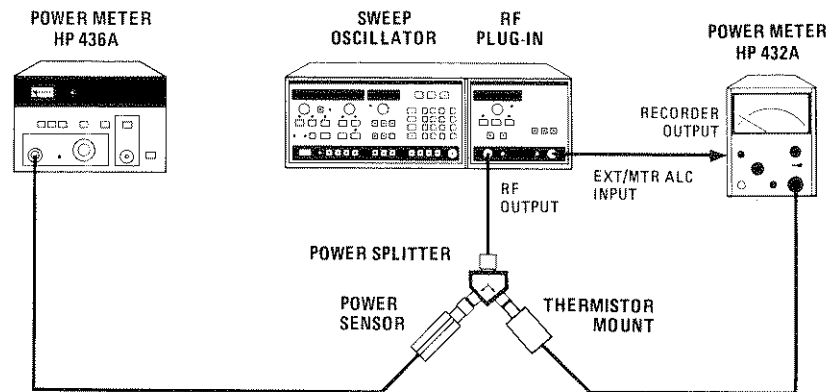

Figure 5-33. Power Meter Leveling Adjustment Setup
1. Connect the equipment as shown in Figure 5-33. On the 8350A, press **INSTR**, **PRESET**, **CW** and select a frequency at midband. Set the RF power level to -2 dBm, as indicated on the 83595A **POWER** display. Allow the equipment to warm up for one hour.